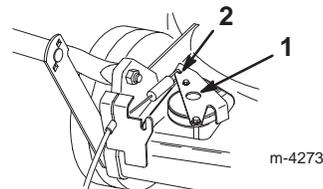

Figure 29
4. Push the drive bracket down until it contacts the lawn mower, then hold it in place (Fig. 29).